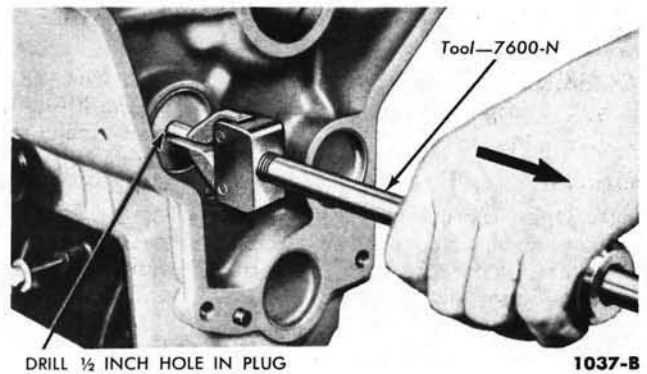

FIG. 31—Camshaft Rear Bearing Bore Plug Removal
1. Remove the engine from the chassis, then remove the camshaft. Drill a 1/2-inch hole in the center of the camshaft rear bearing bore plug and remove it as shown in Fig. 31. Remove the camshaft bearings (Fig. 32).